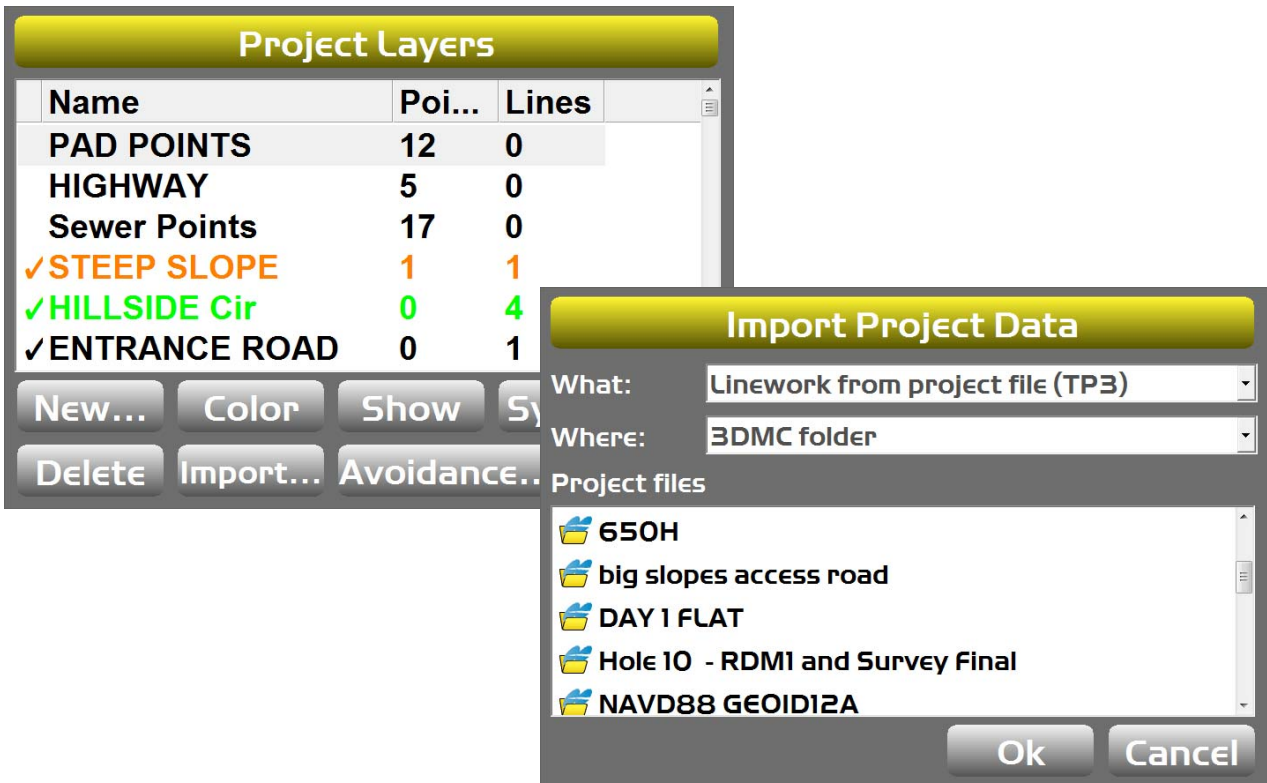

Figure 26: Project Layers Screen – Import Project Data
2. Tap **Import**. The **Import Project Data** screen appears (Figure 26).